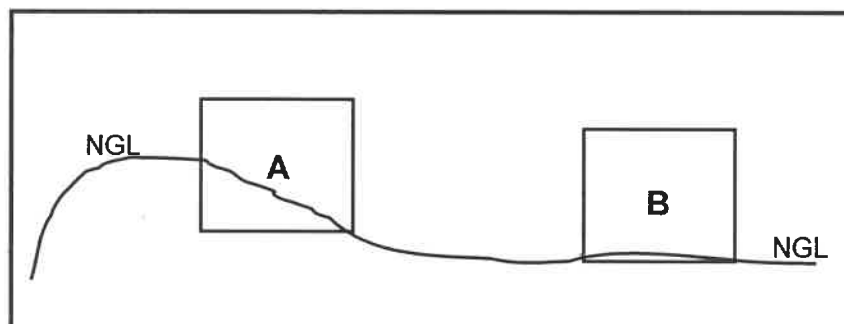

FIGURE 6.4
- 6.4 FIGURE 6.4 below shows the slope of the natural ground level on a site with a sand dune at A sloping down to firm rocky ground at B. (1)